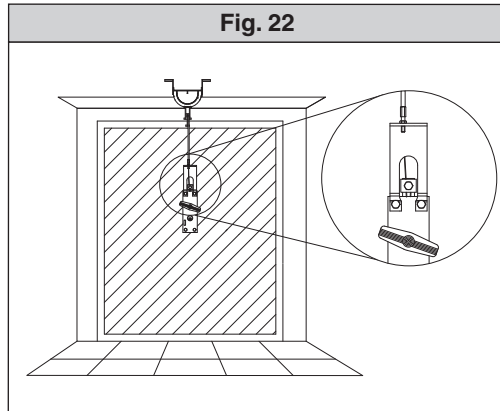
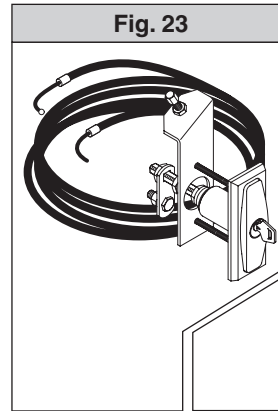

Fig. 22
Fig. 23
In case of electric power failure or system malfunction, the manoeuvre must be carried out manually by pulling the wire connected to the carriage, as in fig.21. For garages which are not provided with a second exit, it is compulsory to fit an external key release device like Mod. **SM1** (fig.22) or Mod. **SET/S** (fig.23).
- SM1** External release device to be applied to the cremone bolt already fitted to the overhead door (fig.22).
- SET/S** External release device with retracting handle for sectional doors measuring max 50mm (fig.23).